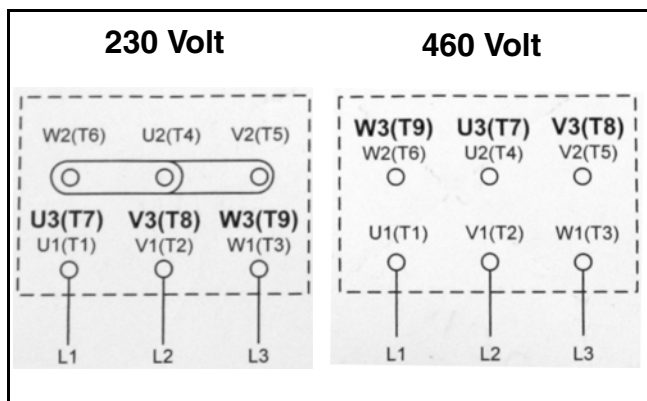

Figure 15
2. Determine wiring configuration (**Figure 15**).